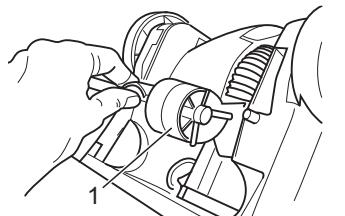

Fig.26
4. Pull the base plate (Fig. 26/1) carefully up out of the appliance.
- Replace the base plate (Fig. 26/1).